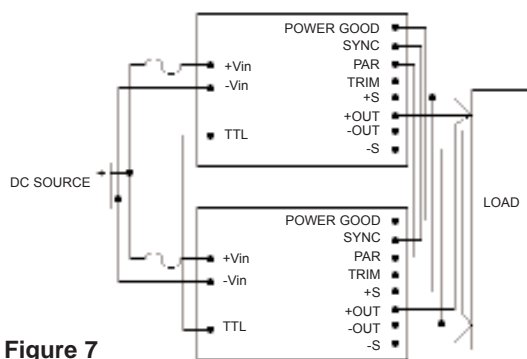

Figure 7
- The PAR, SYNC and $\pm S$ pins of all units should be tied together. (See Figure 7) The Power Good Pins may be tied together.